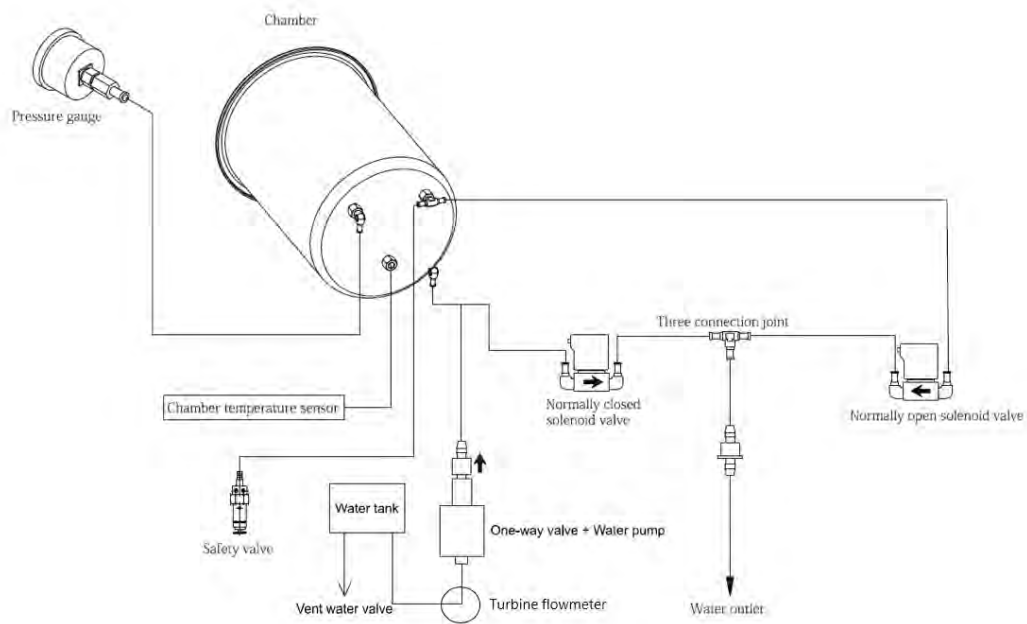

Fig. 13-2
- 13.2. Insert the spanner into the gap beneath the plastic cover, and engage it with the adjusting nut (Fig 13-2). Turn the nut counterclockwise as shown in Fig 13-1. This will tighten the sealing plate to improve the seal.